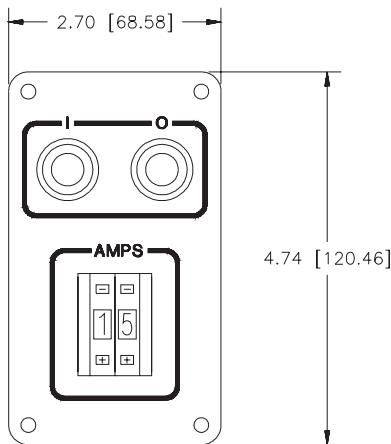
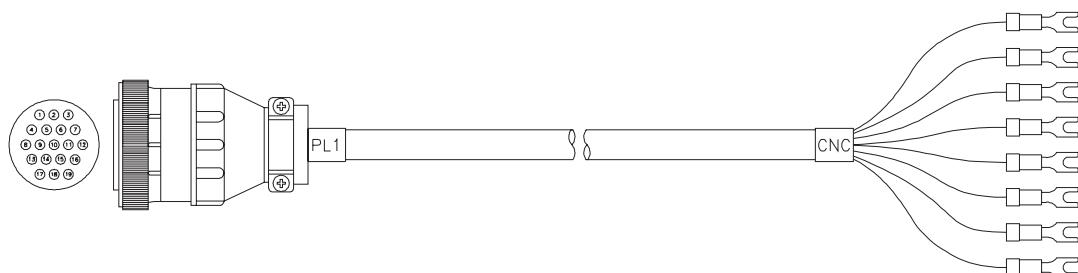

Figure 2-7 Control Panel SA Dimensions
Figure 2-8 Interface Cable (for use with Control Panel SA)
**Control Panel Subassembly** – This configuration requires the use of the control panel SA (mounted on the front panel of the power supply) and the **8-wire interface cable** (Fig. 2-8). The control panel SA provides current selection for users with a limited number of CNC inputs (Fig. 2-7).